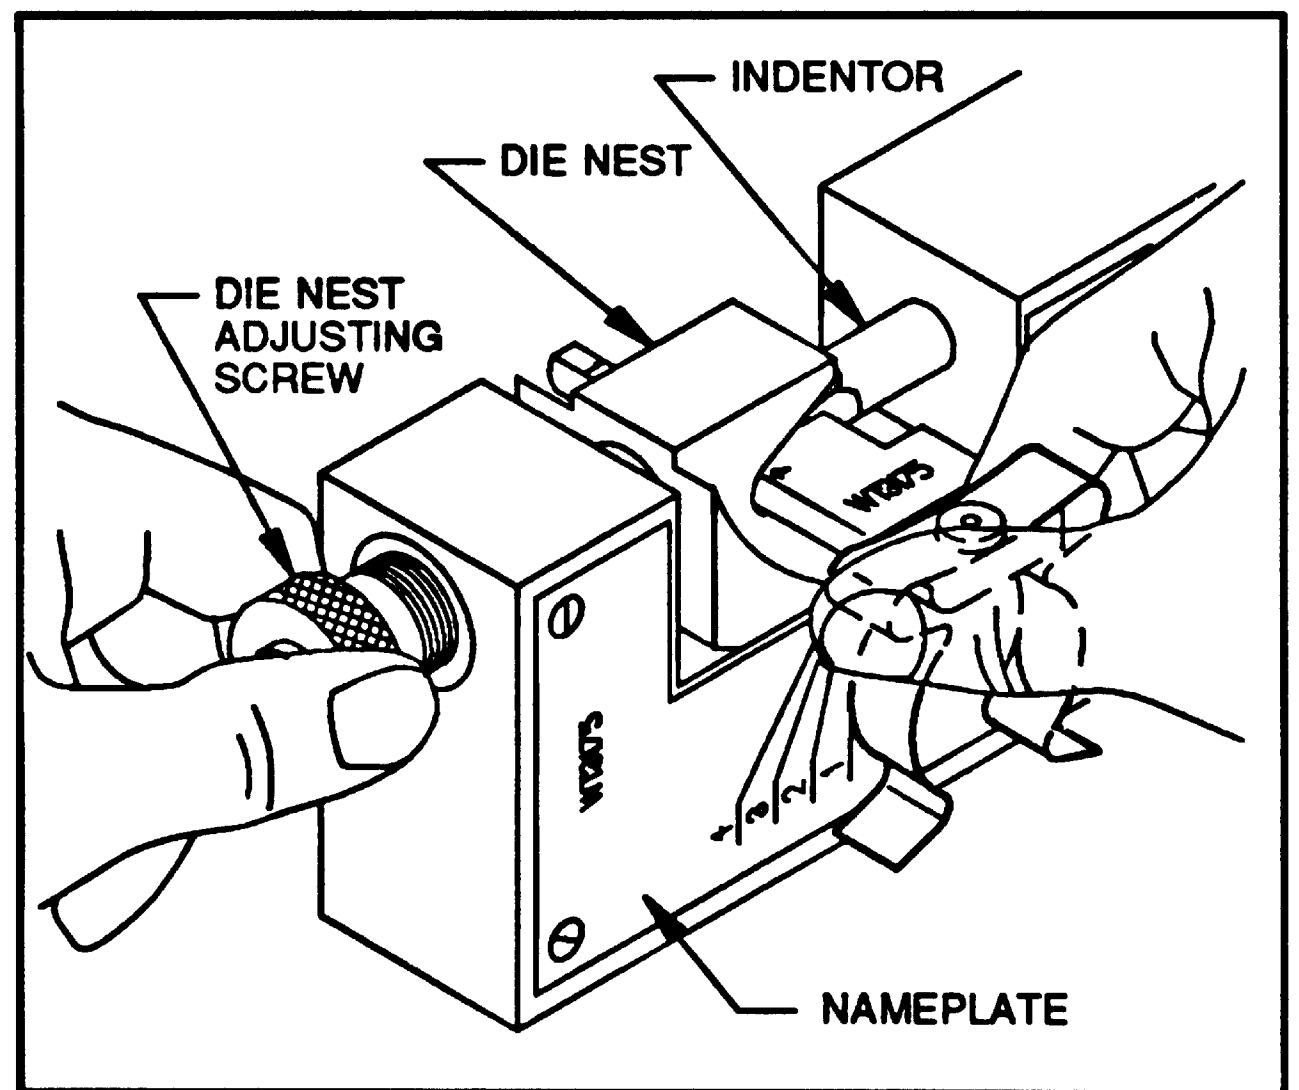

FIGURE 2
4. Select proper die nest position from nameplate on tool. Turn the die nest adjusting screw counterclockwise until the selected gage position can fit between the die nest and indenter. Position the selected gage step (1,2,3 or 4) against the indenter. See Figure 2. Turn the die nest adjusting screw clockwise until the die nest touches the rounded surface of the setting gage.